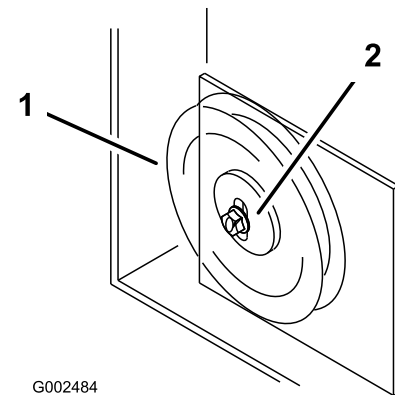

Figure 61
- If the idler plate contacts the end of the adjustment slot and more belt tension is required, a small change to the right side fixed idler can create more belt tension adjustment (Figure 61).